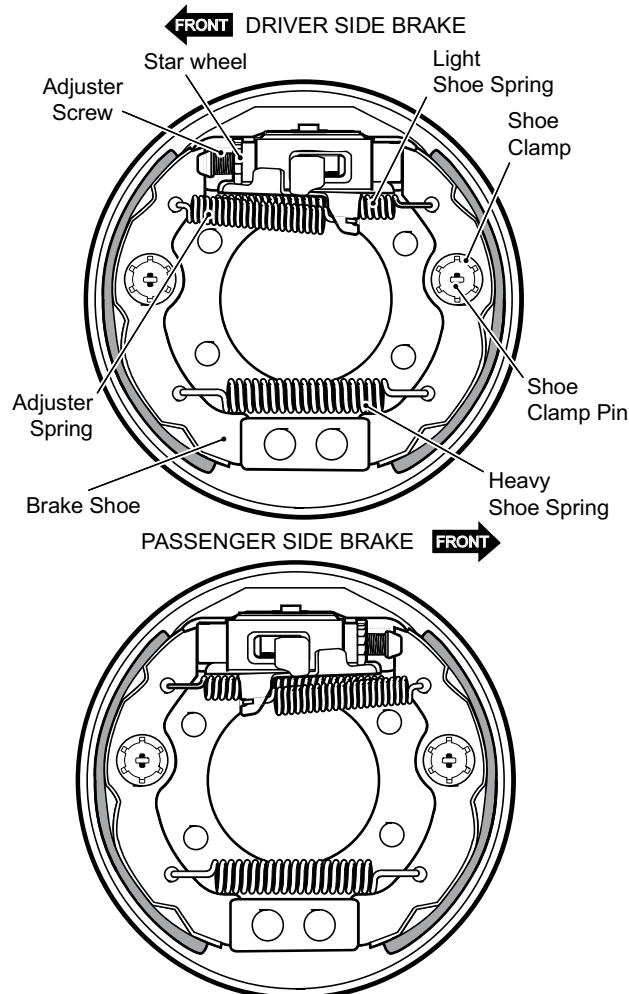

Figure 14 Brake Shoes and Springs
Remove the three brake shoe springs and discard (1, 2, 3). Note the location of the heavy spring and the adjuster spring (Figure 14). Hold the shoe clamp pin (4) and compress and rotate the shoe clamp (5) 90° to release it from the shoe clamp pin. Remove the brake shoes, adjuster and remaining components.
Always replace both brake shoes on both wheels as a set. Install the shoes as indicated and install the shoe clamp (5) over the shoe clamp pin (4) and rotate 90° to lock them in place (Figure 14).
Install new brake shoe and adjuster springs. The hooked end of the adjuster spring is installed through the front of the front shoe as shown (Figure 14). The opposite end of the adjuster spring is connected to the adjuster with the hook end facing out. The brake shoe springs must be installed with the light spring closest to the adjuster mechanism with the hook installed down through the rear brake shoe and up through the front brake shoe. The heavy top spring is installed with both spring hooks installed down through the brake shoes. Make sure that the brake operates correctly.